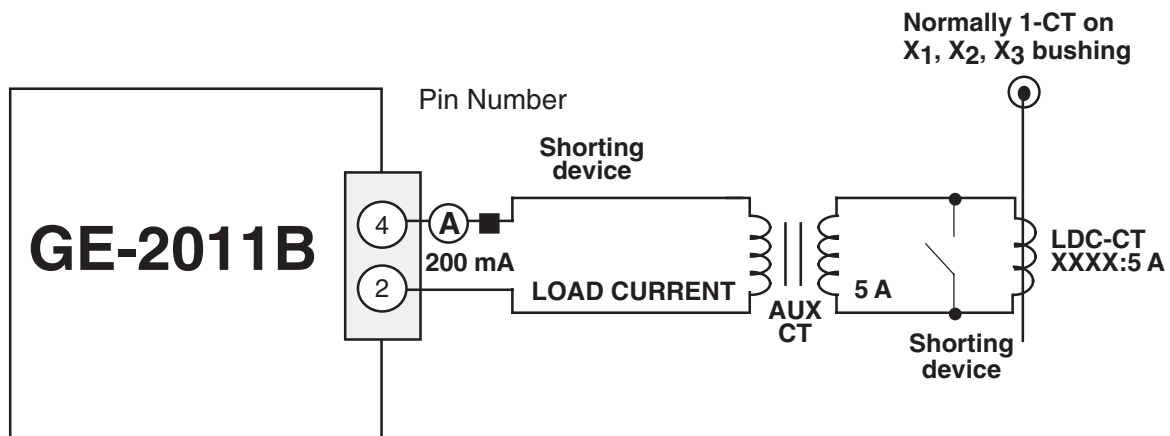

Figure 8-14 GE-2011B Setup for Current Checkout Procedure
1. Short the line drop compensator circuit by placing a shorting device of adequate capacity, across the LDC-CT secondary (See Figure 8-14).